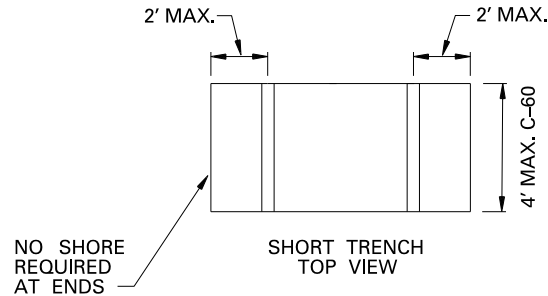

Fig. 2
6. The shores shall be placed at the required spacing from end to end of the excavation with a minimum of 2 shores. There shall be a shore within 2' of each end of the excavation. If trench width is 4' or less, no end protection is required. See Fig. 2.